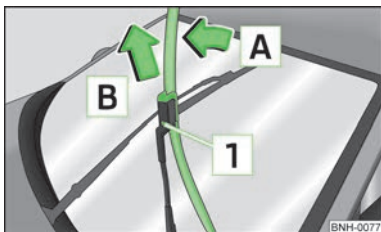

Fig. 29
- Raise the windscreen wiper arm from the rear window and slightly tilt the windscreen wiper blade towards the wiper arm, arrow **[A]** » Fig. 29.